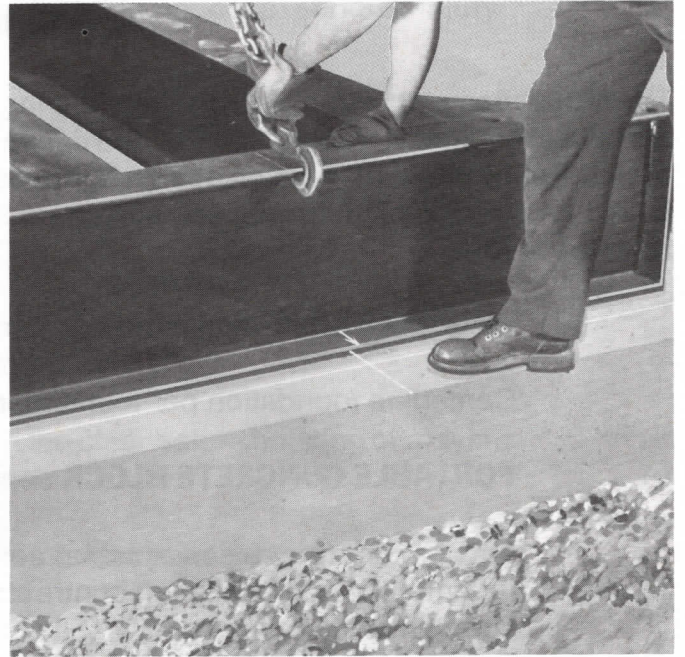

Fig. 2
2. Set frame on foundation aligning frame centerline with that on foundation, Fig. 2.